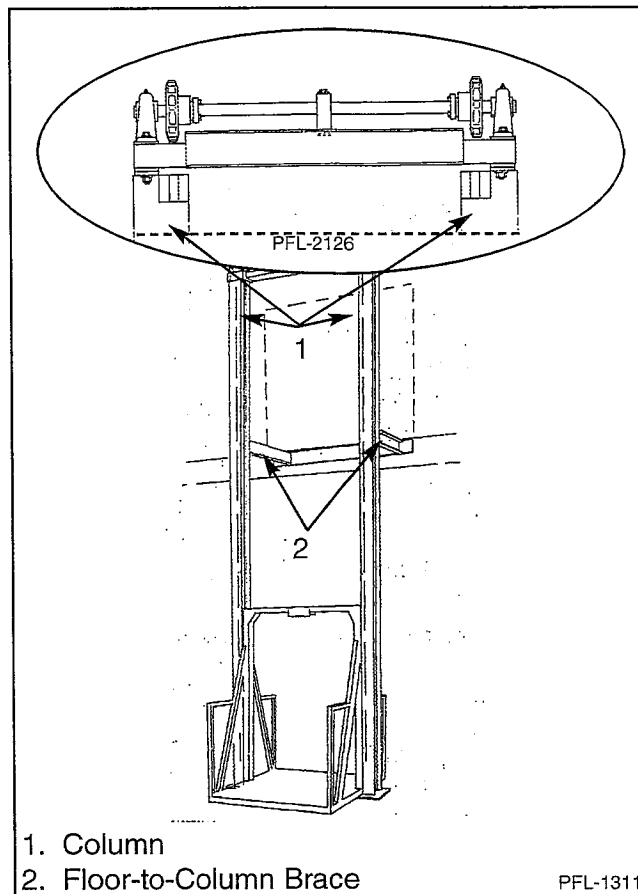

Figure 16
9. Plumb left column. Recheck spacing and lag or tack weld left floor-to-column brace. Make sure braces clear decklock arms, cylinder travel, etc. See Figure 16.